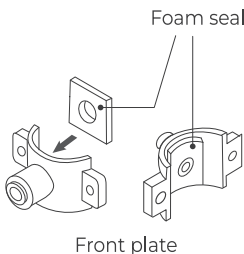

Figure 8
1. Stick the foam seal on the front plate of the drain saddle. Ensure that the hole of the foam seal is aligned with the hole of the front plate (Figure 8).